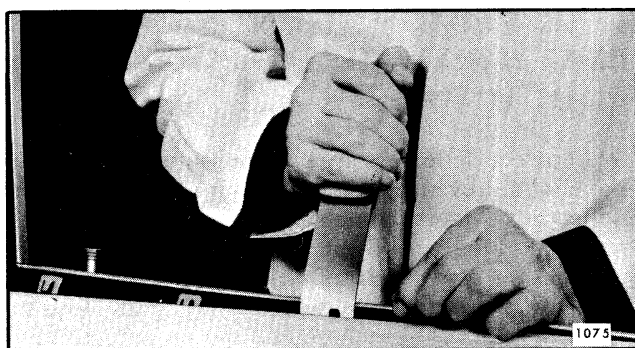

Fig. 5-25-Clip Retained Belt Sealing Strip Removal
- b. Using a flat-bladed tool that is slotted to fit over tang of clip, disengage clips from slots in door panel return flange as shown in Figure 5-25.